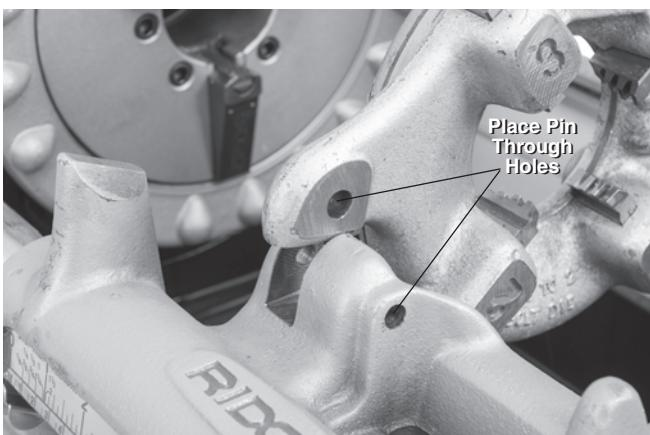

**Figure 25B – Rear Pivot Rod Support - Pin Placement**
- c. Remove E-clips and rear pivot rod support (Figure 25B).
- d. Position the rear pivot rod support so that pin faces outward and reinstall (Figure 25B).
- g. To convert back to Right Hand threading only, turn over the rear pivot rod support so that pin faces inward and reinstall (Figure 25B).